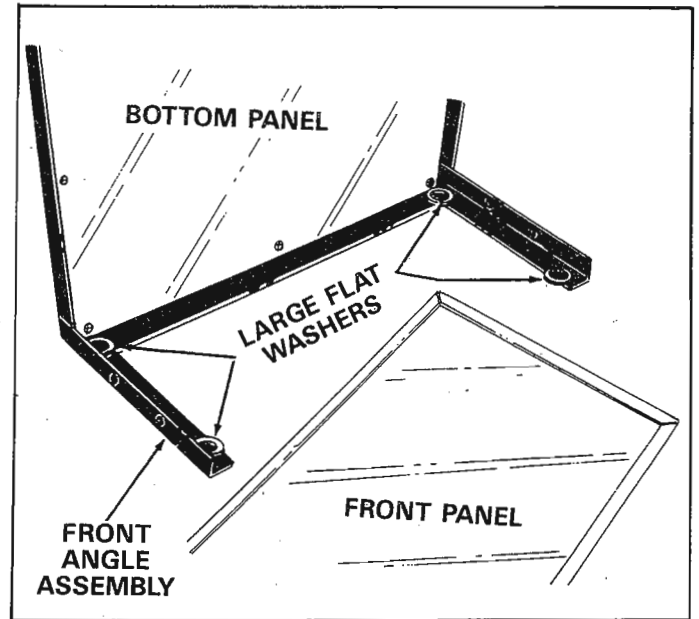

FIGURE 4
7. Stand cart on its front end with front angle assembly on the floor. Place four large 1-1/2" dia. flatwashers (used on wheel axle) on the inside of front angle assembly. See figure 4.